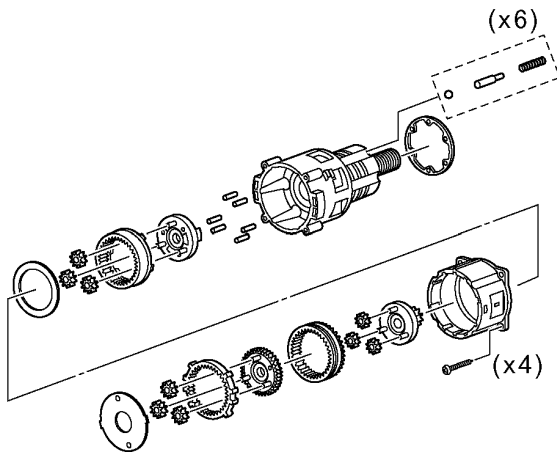

Fig. 8
2. The internal parts of gear box block can be removed one after another. (See Fig. 8)
3. Assemble the other parts in reverse order as shown in the Fig. 8.